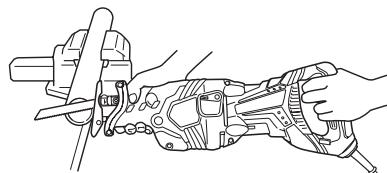

Fig. 22
- Fasten a workpiece firmly before operation. (Fig.22)